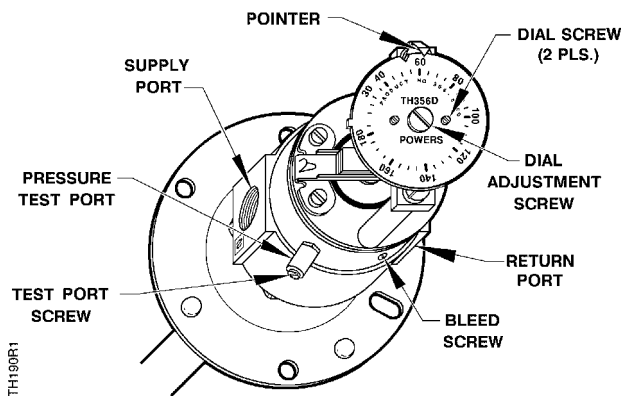

Figure 6. Limitem Cover Removed.
2. Turn the dial adjustment screw with a screwdriver (Figure 6) to change to the desired setpoint.
3. If permanent return air gauge is not installed, use the pressure test port. See Figure 6 for its location.
1. Loosen the dial screws. (See Figure 6)